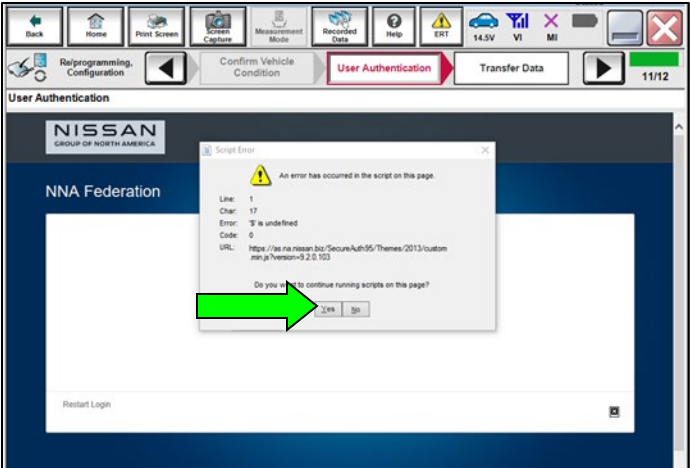

Figure 10
19. If the Script Error shown in Figure 10 is present, select **Yes**.